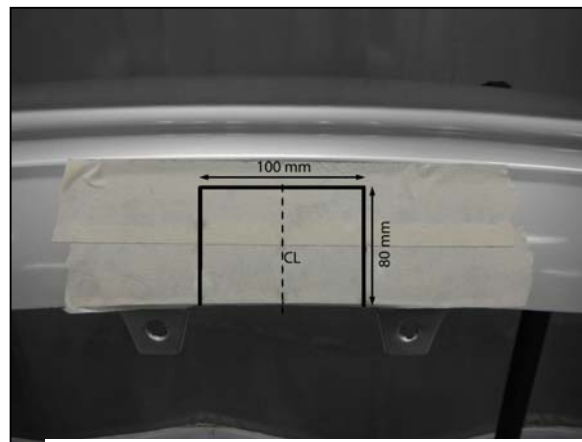

Figure 2 - Bumper cut
13. Trim the bumper center as shown in figure 2.